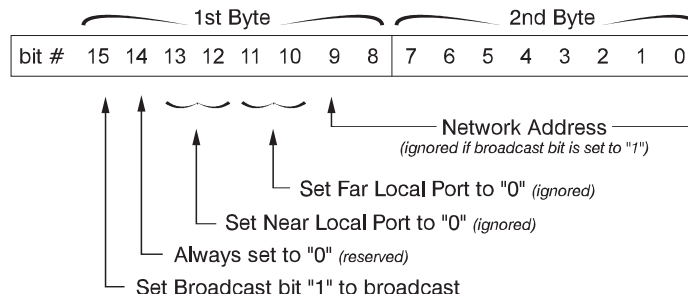

Figure 3 Format of Address Fields
- 2) **Destination** and 3) **Return Address (Source) Fields:** These fields contain two sixteen-bit addresses — one for the message destination and one for the source. A breakdown of each address field is shown in Figure 3. Note that Near and Far Port Address bits are now ignored — while it is strongly recommended that these bits be set to "0" to ensure compatibility with future releases of software, it is not yet mandatory to do so. Bit #14, however, *must* be set to 0.